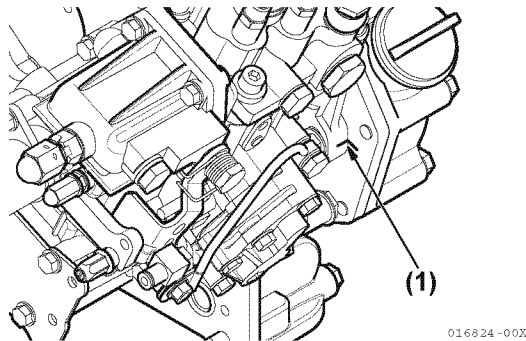

Figure 6-43
- (a) Align the reference marks (Figure 6-43, (1)) previously made on both the fuel injection pump mounting flange and gear case or front plate.